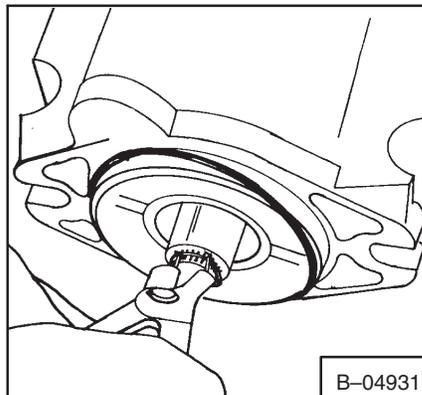
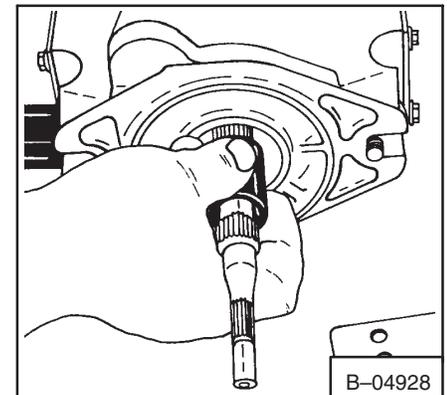

Fig. 2-36 Remove The Snap Ring
Fig. 2-37 Removing The Coupler
1. Remove the snap ring (Fig. 2-36).
2. Remove the coupler (Fig. 2-37).
2. Install the coupler (Fig. 2-37) and the snap ring (Fig. 2-36).